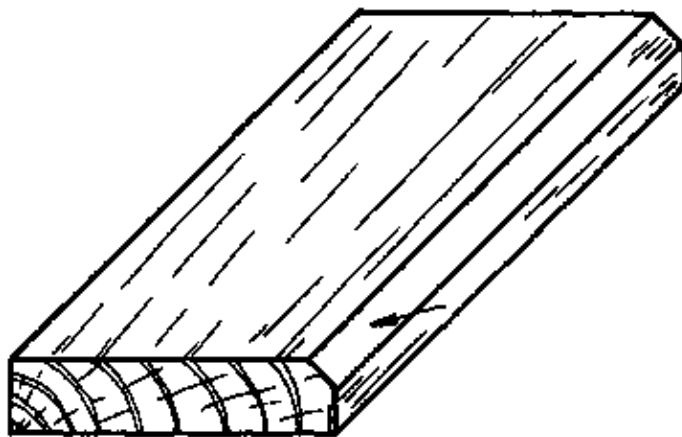
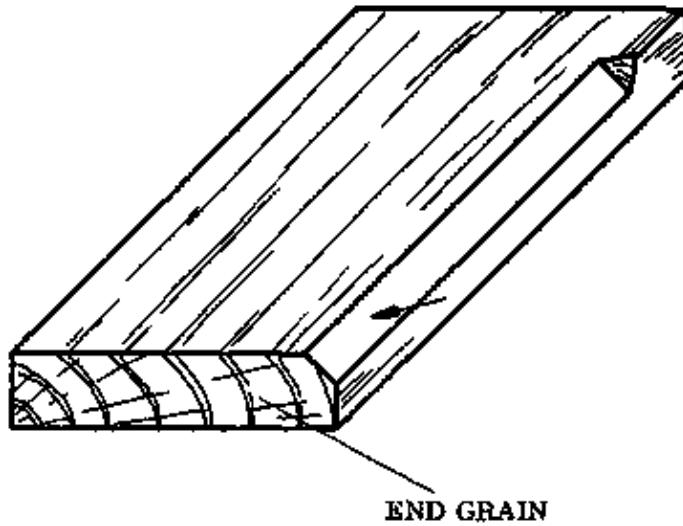

Fig. 1
Fig. 2
- **BEVEL:** This is made by planing off the sharp edge to form a new surface which is not at right angles to the side of the piece of wood. A **CHAMFER** is a special bevel, cut at 45 degrees. A "through" chamfer or bevel runs the whole length of the edge (Fig. 1). A "stopped" chamfer or bevel is stopped at one or both ends (Fig. 2).